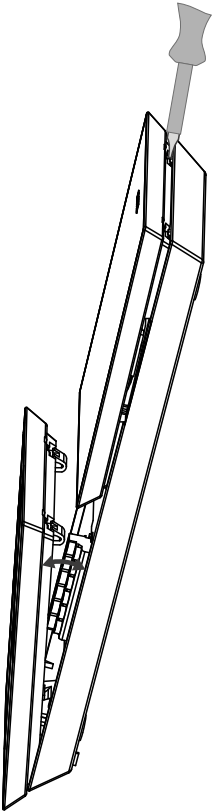

Figure 4: Assembly / Dismantling
- Hook the bottoms of the button cover and loudspeaker clover (Figure 4) into the the bottom part and push them up until the locking hooks engage.
To dismantle the covers, unlock the locking hooks (Figure 4) using a screwdriver.